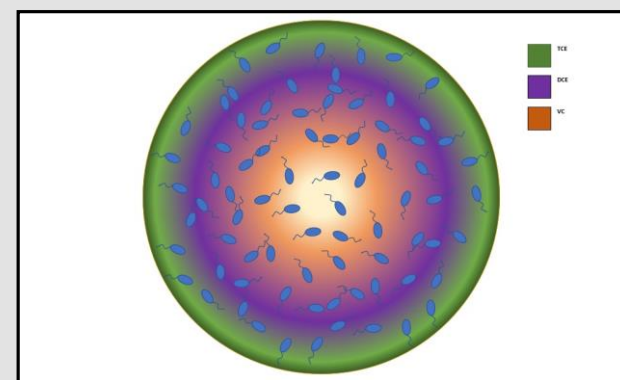

Figure 2: The 'Goldilocks' rate of diffusion within the hydrogel between transitory substances (Waynant 2021).
Figure 2. (A) Schematic of drop-casted glass slide (B) Drop-casted glass slide (C) Schematic of calcium ionophore-ink mix on flexible surface; (D) Calcium ionophore-ink mix printed on flexible Kapton® surface.